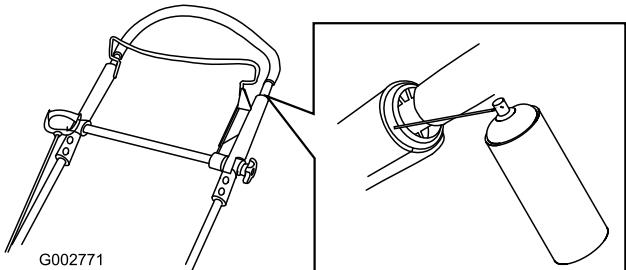

Figure 46
- Spray the outer plastic end of the inner handle (Figure 46).